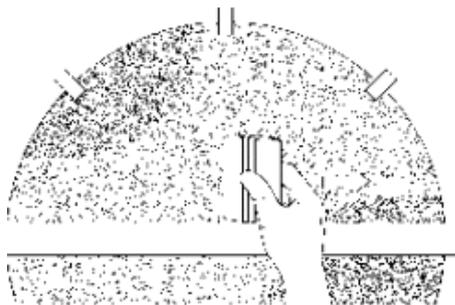

Figure 12. Squeegee an Intricately-Shaped Graphic
2. Again, following the techniques in **Centre Hinge Method**, squeegee the graphic beginning at the center of the tape hinge and working outward to the closest edge. See Figure 12.